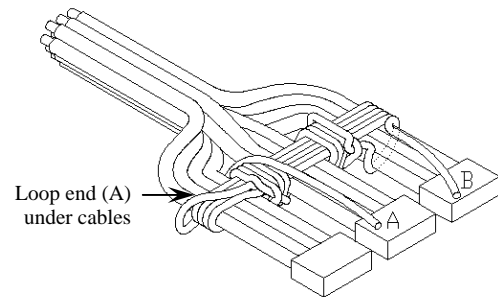

Figure 9: Finish Wrapping the Space between Cables
3. Wrap the rope several times until the spaces between the conductors (Figure 9) are completely filled.